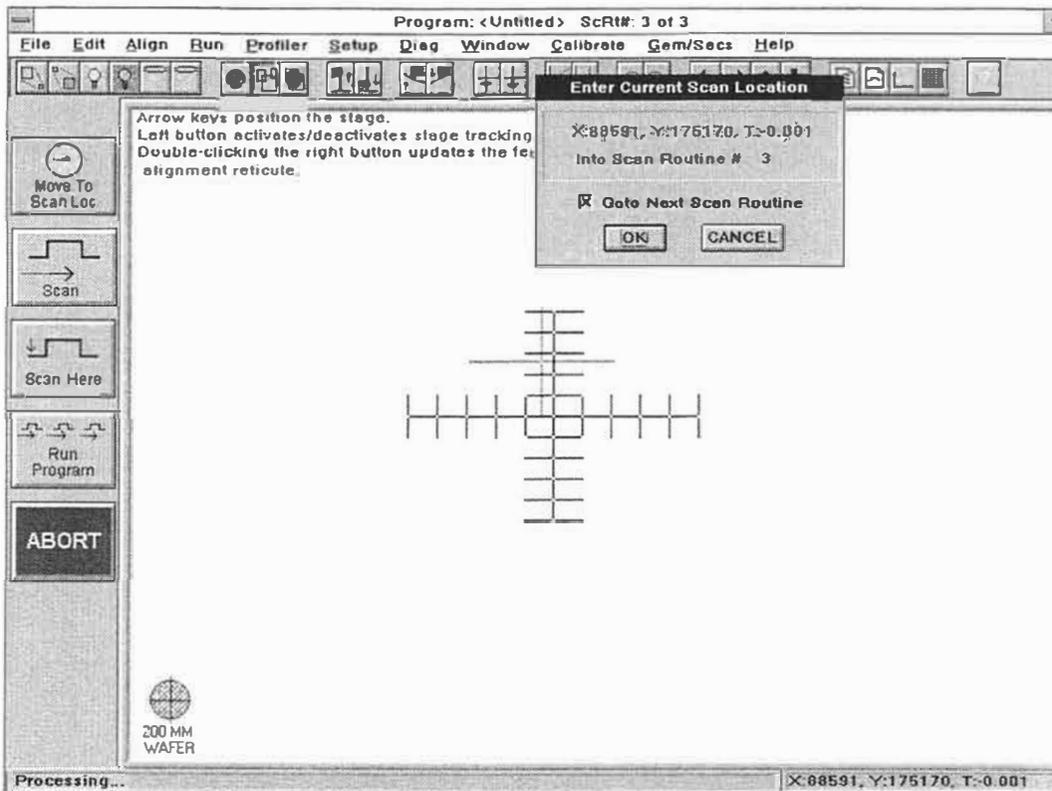

Figure 5-6. Stylus Position for Scan Routine #2
2. Roll the pointing device to position the calibration standard as shown in Figure 5-6. Once the calibration standard is properly aligned with the software reticule, click the mouse or trackball a second time to deactivate the stage.
2. Roll the pointing device to position the calibration standard as shown in Figure 5-6. Click a second time to deactivate the stage.